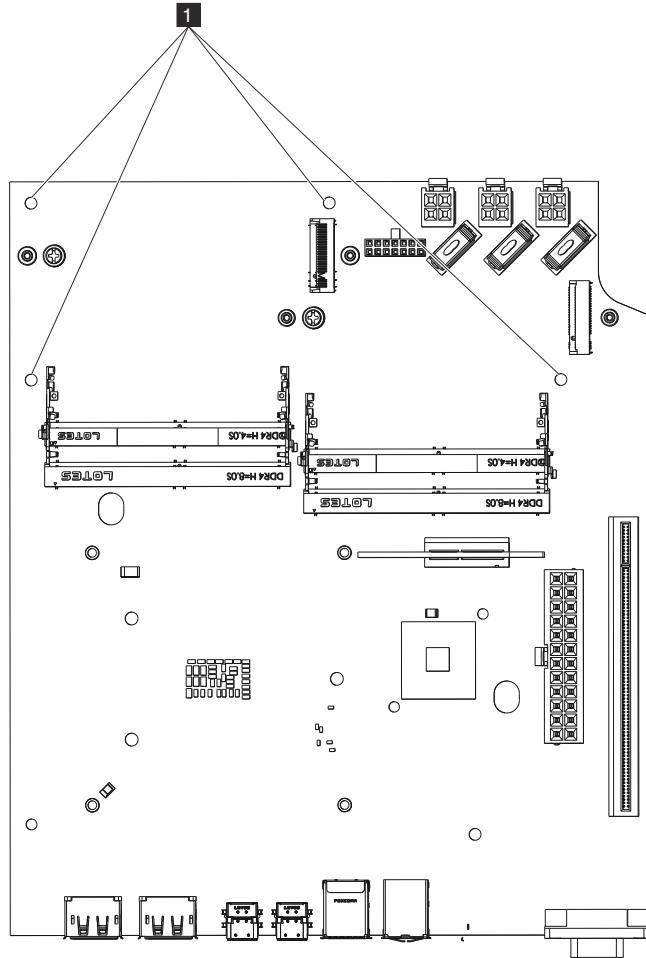

Figure 23. Removing the system board
9. Remove the four system-board retaining screws **1** on the system board (see Figure 23).